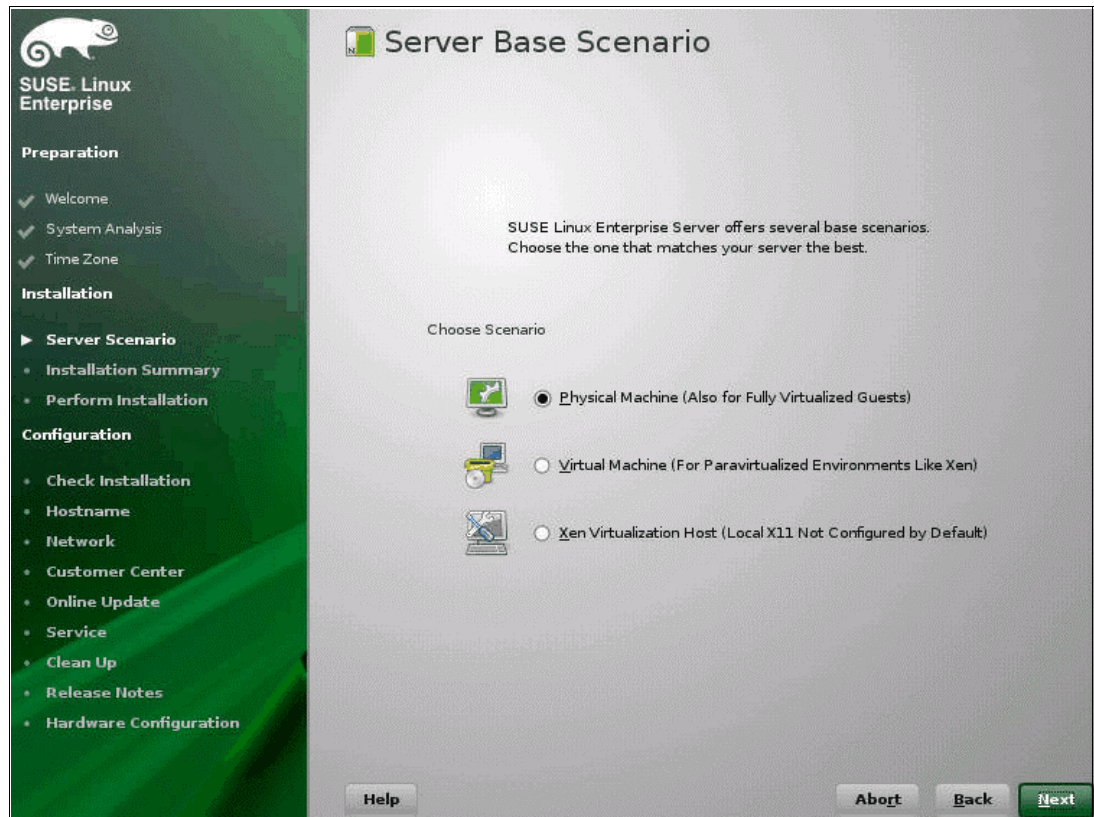

Figure 5-99 Server base scenario
6. Set the clock and time zone. Next, at the *Server Base Scenario* window, choose **Physical Machine**, as shown in Figure 5-99.